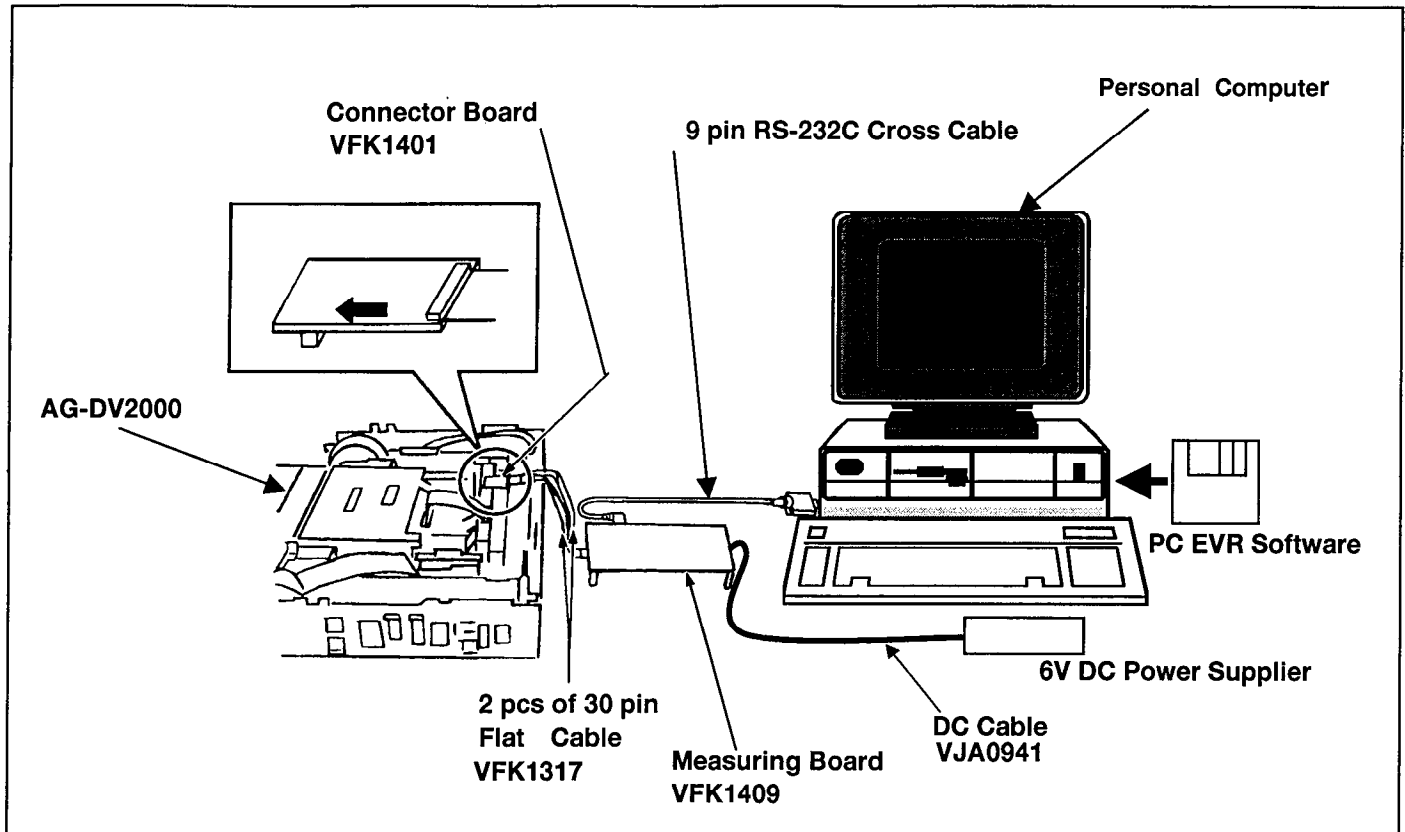

Fig. 2-7
Figure 2-7 shows the overall system connection of the PC EVR System.
- Connect a 9pin RS-232C cable between the Measuring Board and RS-232C connector on the Personal Computer as shown in figure 2-7.